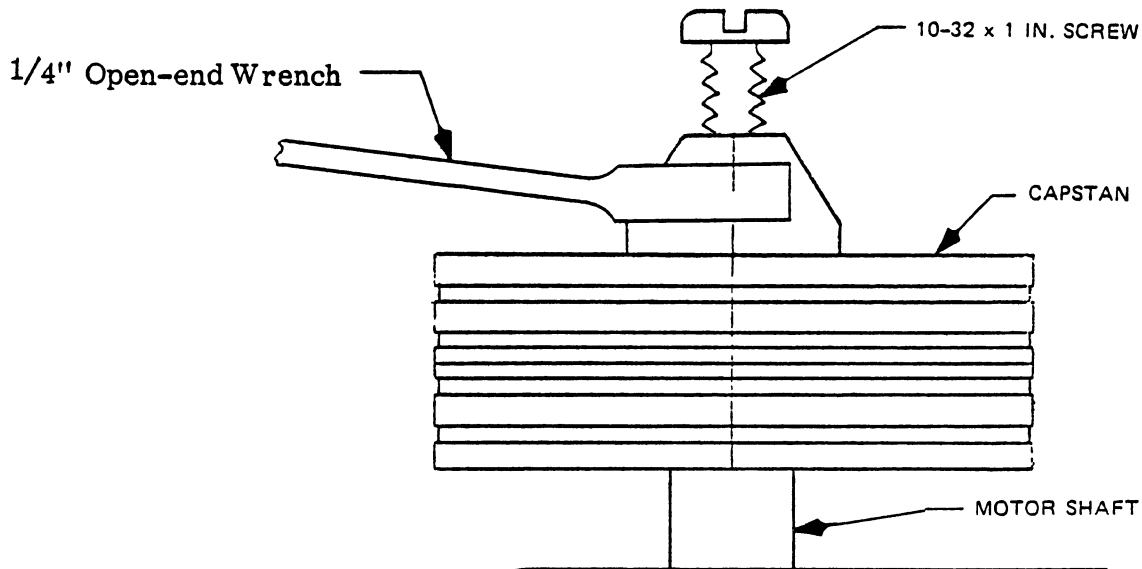

Figure 5-6. Capstan Removal
- a. Screw 1-inch-long, 10-32 NF screw into end of capstan hub until it contacts end of motor shaft. Hold capstan with 1/4-inch open-end wrench (see Figure 5-6), and tighten screw. This will cause capstan sleeve to be pulled from motor shaft.